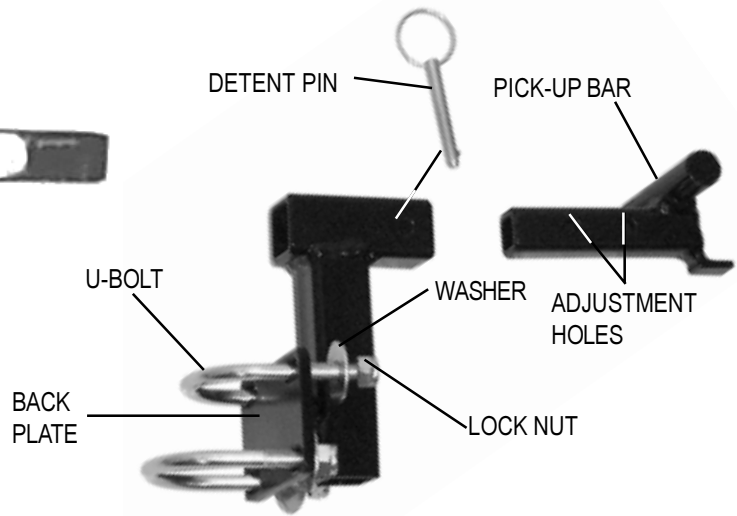

FIGURE 18A.
To assemble parts correctly us figure 18A.
3. Place a U-bolt around the lower seat post and through the upper holes in the back plate. Finger tighten the lock nuts on the U-bolt. See figure 18A.